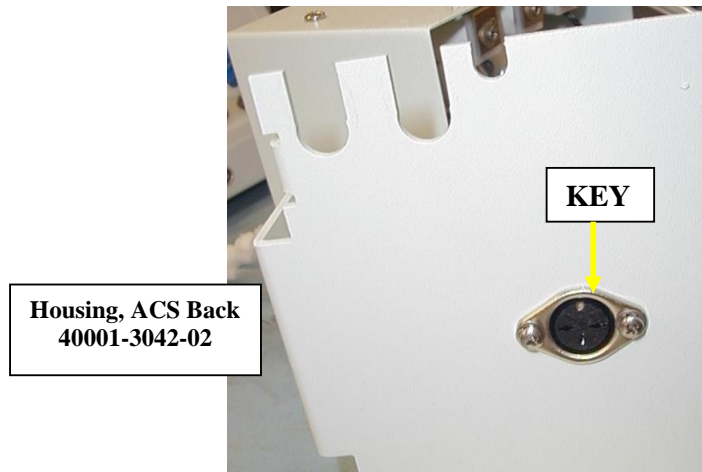

Figure 9 Outside view of ACS Back Housing
- 4.3. Secure it with (2) 4-40 pan head 3/16" screws (20004-0003-01) and (2) #4 lock washers (20002-0440-01). Note the direction of the Key is toward the slots for the hoses as shown in Figure 9.